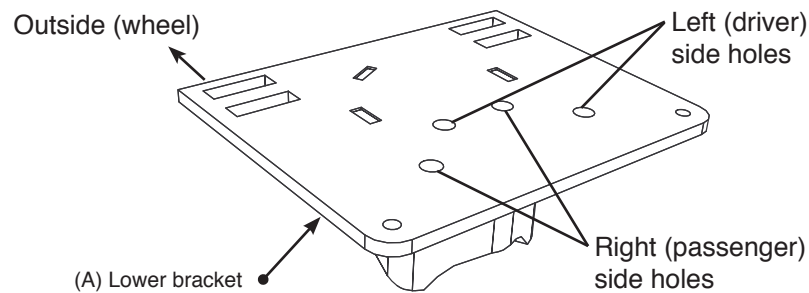

fig. 5
If you have a fifth wheel hitch that does not have a plate running alongside the full length of the frame (these will have an “L” bracket forward and behind the axle leaving the middle frame open) use the 1/2-13 x 2.00” Hex Cap Screw (HH) with a flat washer (R) through the slot in the side of the frame, then through another flat washer (R) and finally through the upper brace. Cap with a flat washer (R) and a 1/2-13 nyloc nut (X) (fig. 5). Leave loose at this time.
2. Install the swivel elbow fitting (Z) into the top of the bellows finger tight. Tighten the swivel fitting one and a half turns.
3. The lower bracket (A) has two sets of bellows mounting holes. Using the corresponding holes in the lower bracket designated (fig. 5), attach the bellows to the brackets using the 3/8" flat washers (W), lock washers (U), and 3/8"-24 x 7/8" hex head cap screws (N). Torque both mounting screws to 20 ft/lbs.